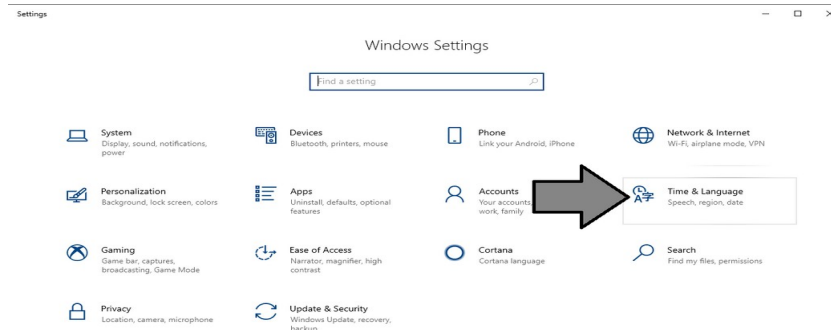

Figure 138: Time & Language
2. On the Windows Settings App, click on “Time & Language” (Figure 138).